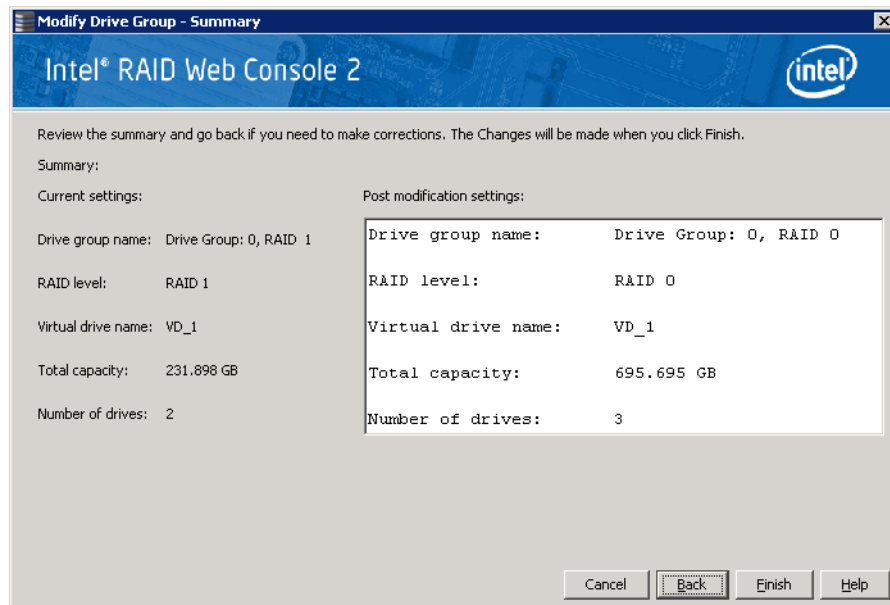

Figure 71. Changing RAID Level
4. When you are finished adding disk drives, click **Next**. The next screen displays, which allows you to review the summary and go back if you need to make corrections as shown in Figure 71.